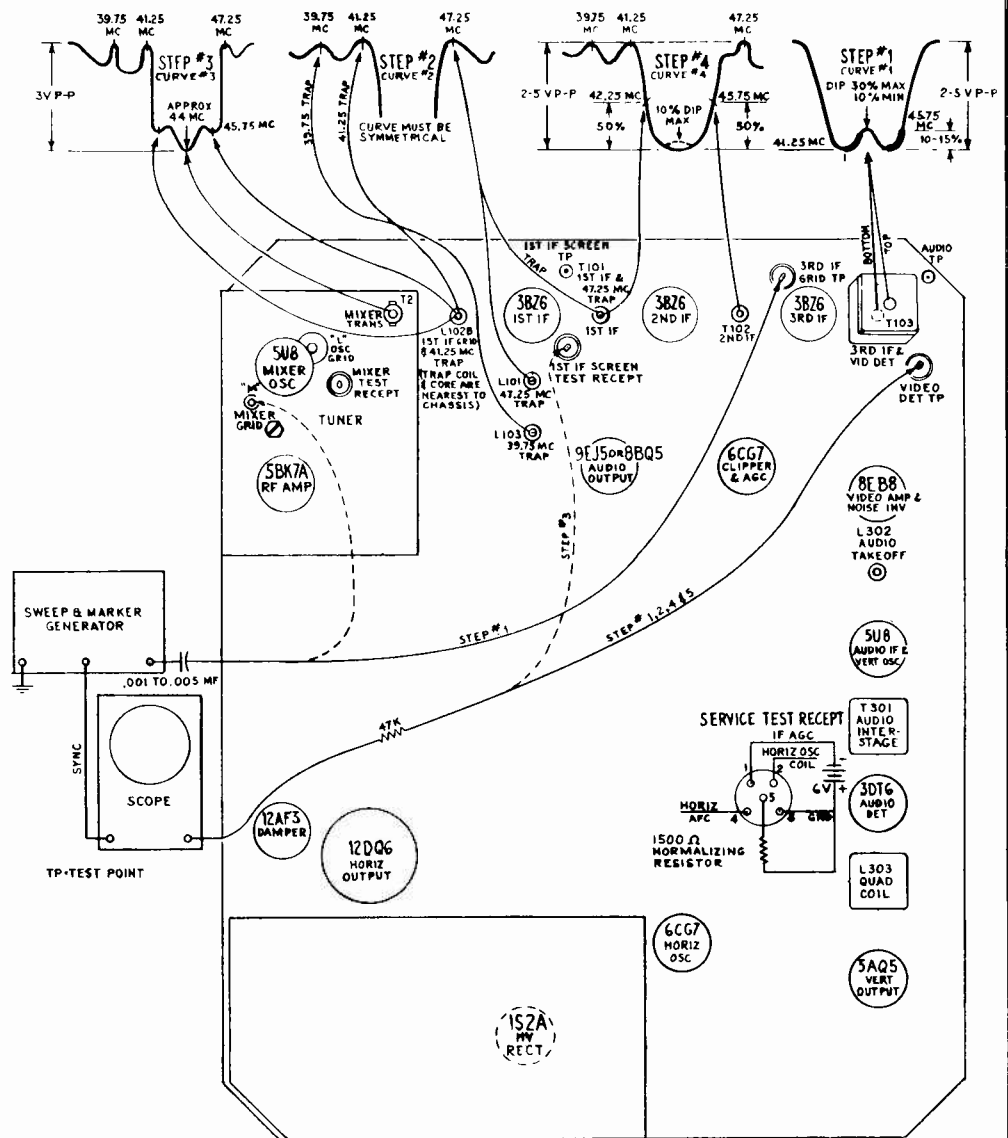

FIGURE 7. VIDEO IF & MIXER ALIGNMENT PROCEDURE
10. Refer to Video IF & Mixer Alignment Detail for component and test point locations (Figure 7).
- Refer to Video IF & Mixer Alignment Detail for coil and test point locations (Figure 7).